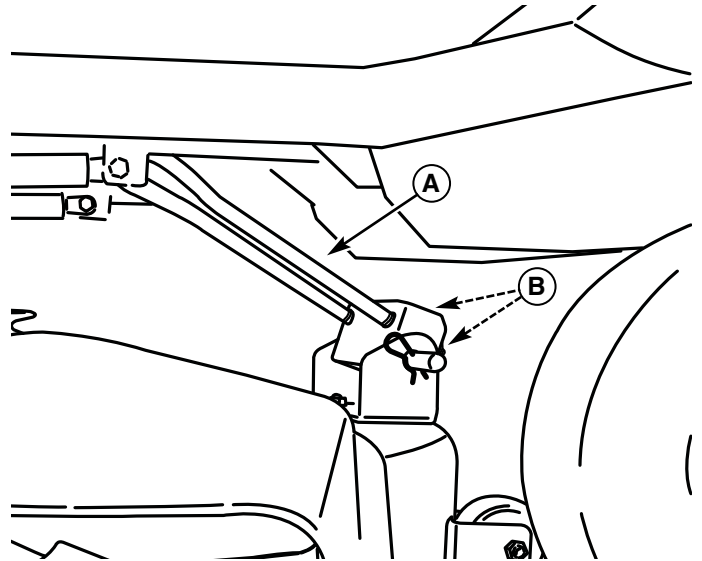

Figure 54. Front-to-Back Leveling
2. The front mower hitch rod (A, Figure 54) is used to adjust front-to-back leveling. To raise or lower the front of mower deck, adjust the front jam nuts (C) on both sides of the hitch rod (A) to adjust the deck level.